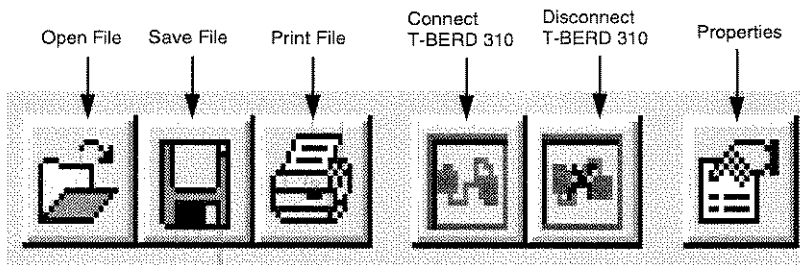

Figure 2-32. DWDM Channel Monitor Tool Bar Icons
2. **Icon Application Selection** — This area displays DWDM Channel Monitor icons under main menu bar (see Figure 2-32).